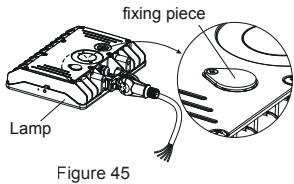

Figure 45
Step 1: Find the switch to adjust CCT(Figure 45);